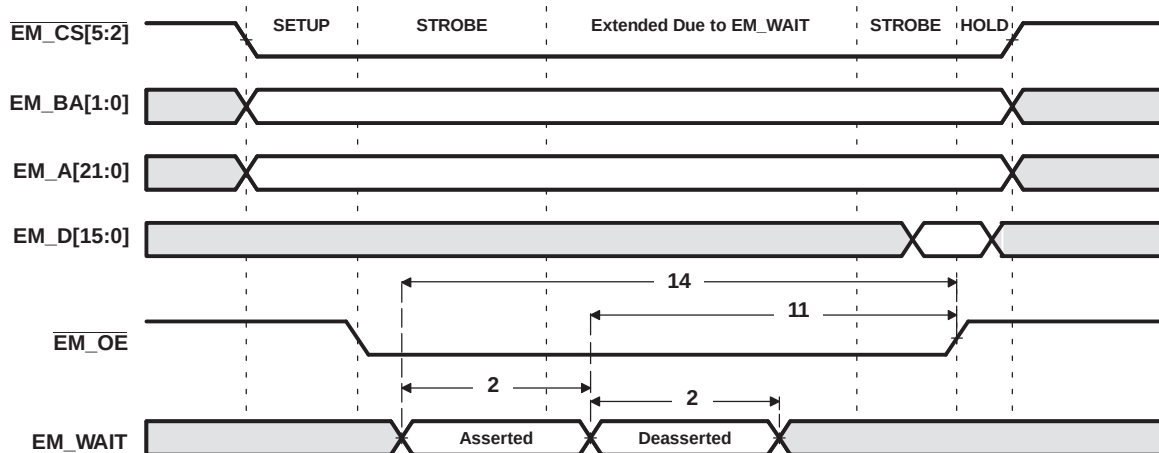
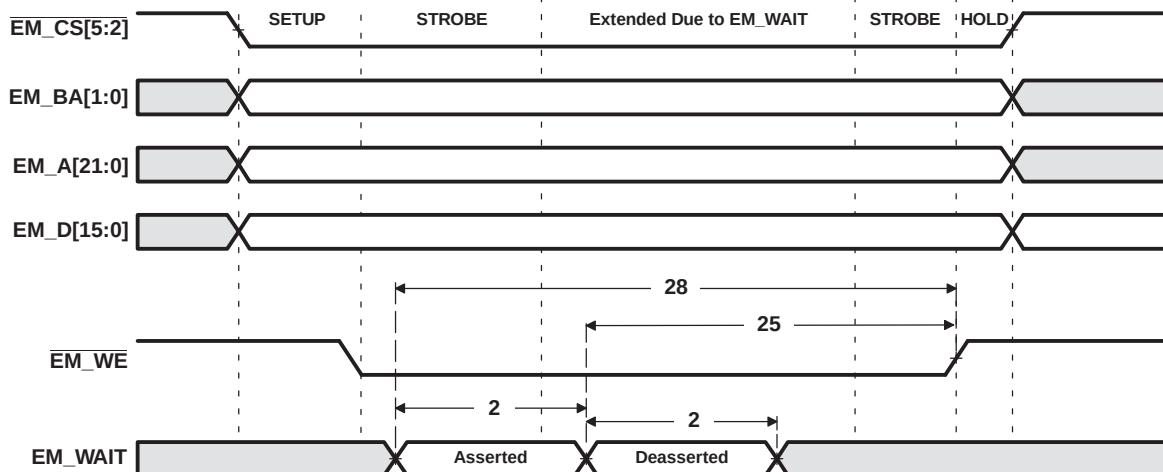

Figure 6-23. EM\_WAIT Read Timing Requirements
Figure 6-24. EM\_WAIT Write Timing Requirements
- (1) E = SYSCLK5 period in ns for EMIFA. For example, when running the DSP CPU at 594 MHz, use E = 10.1 ns. For example, when running the DSP CPU at 810 MHz, use E = 7.4 ns.
- (2) Setup before end of STROBE phase (if no extended wait states are inserted) by which EM\_WAIT must be asserted to add extended wait states. Figure 6-23 and Figure 6-24 describe EMIF transactions that include extended wait states inserted during the STROBE phase. However, cycles inserted as part of this extended wait period should not be counted; the 4E requirement is to the start of where the HOLD phase would begin if there were no extended wait cycles.